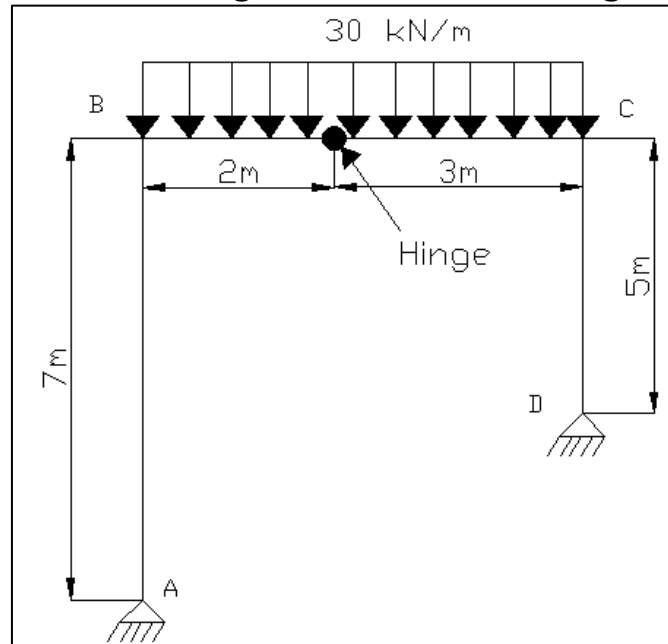

Fig. 3
3. Analyse the portal frame shown in Fig. 3 and draw the bending moment diagram of the frame.